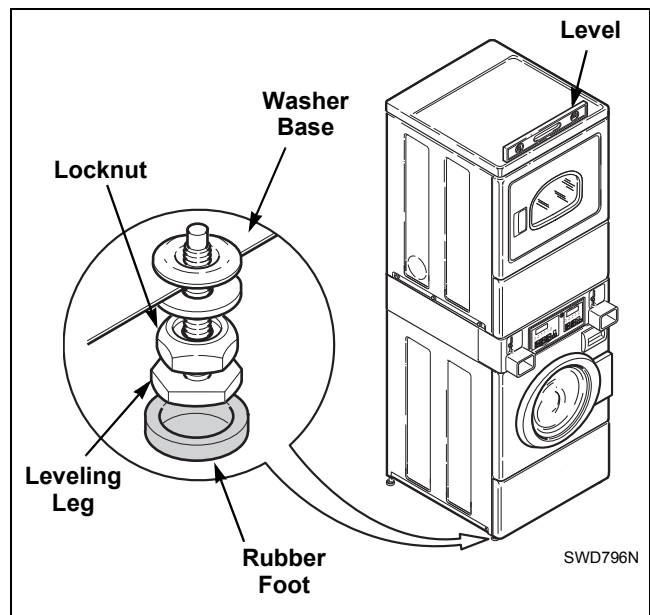

Figure 13
**NOTE:** Level must be on a raised portion of top panel. Refer to *Figure 13*.
- Loosen locknuts and adjust the leveling legs until the unit is level from side to side and front to back (using a level). Make sure unit **does not rock**. Refer to *Figure 13*.
- Place rubber feet on all four leveling legs. Refer to *Figure 13*.